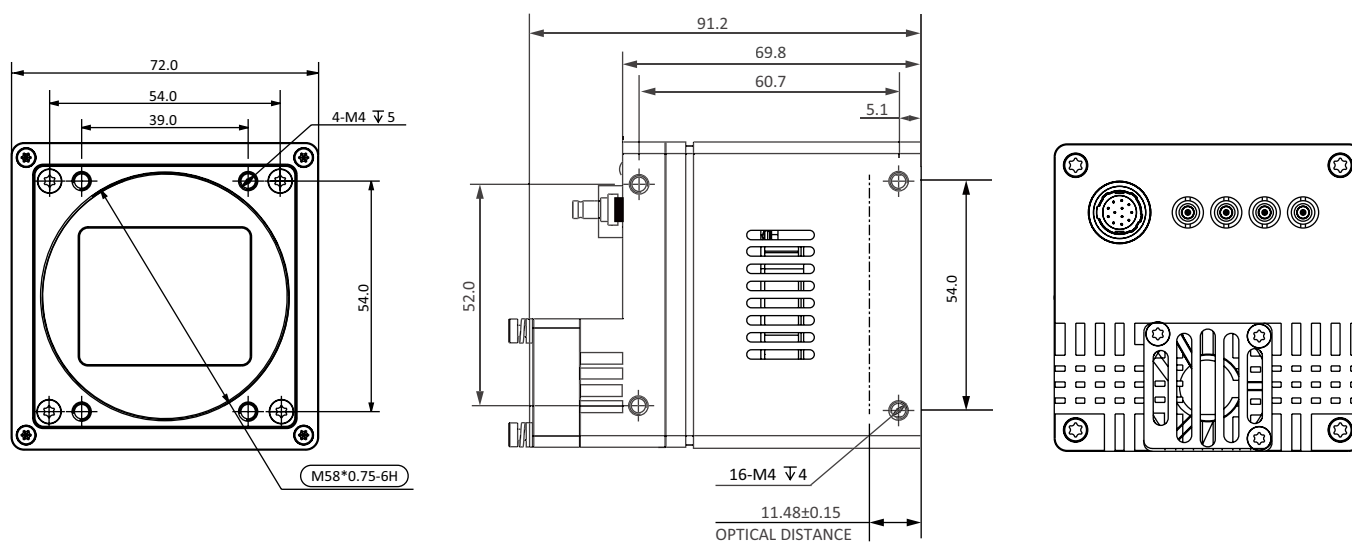

Fig. 1-7: Mechanical Dimensions (in mm) for Cameras with 72 \* 72 \* 69.8mm housing (M58 interface).
- Fig. 1-7: Mechanical Dimensions (in mm) for Cameras with  $72 \times 72 \times 69.8$ mm housing (M58 interface).